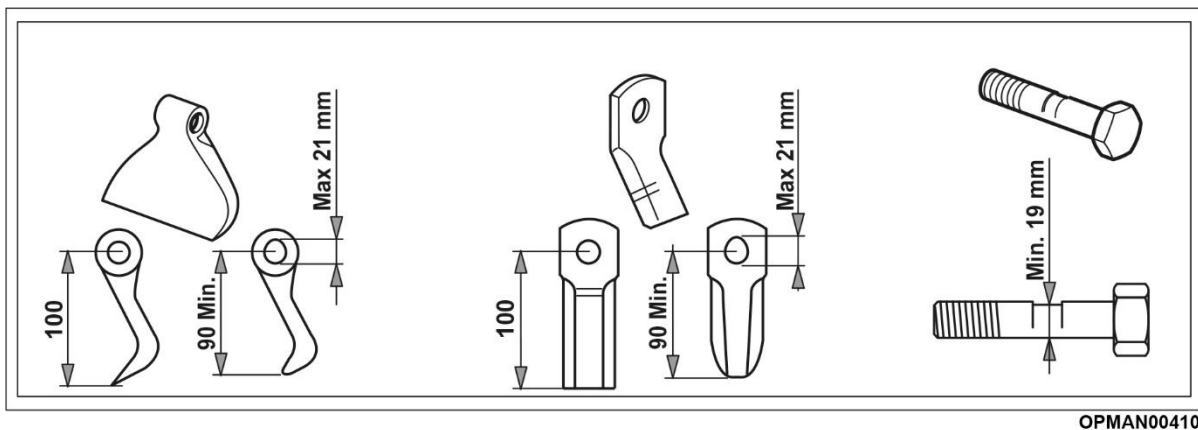

Figure 20
For worn flails and bolts (see Figure 20):
- The special bolts must be replaced to fasten the flails if visibly damaged, bent or ovalized to the limit (see Figure 20).